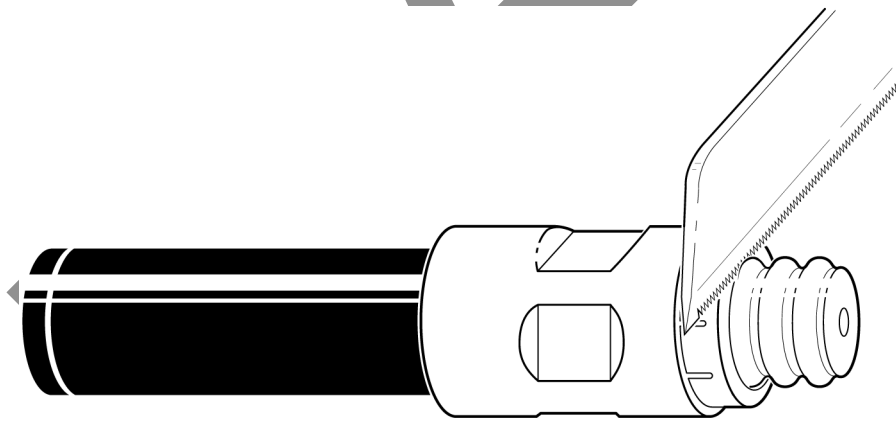

Figure 73 – Cutting the outer conductor
1. Use a fine-tooth saw to cut through the outer conductor flush with the cutting guide. Do not cut deeper than the outer conductor, and make sure that the cut is made along the entire circumference where the cutting guide meets the outer conductor corrugation peak; see Figure 73. Remove the cutting guide when the cut is complete.